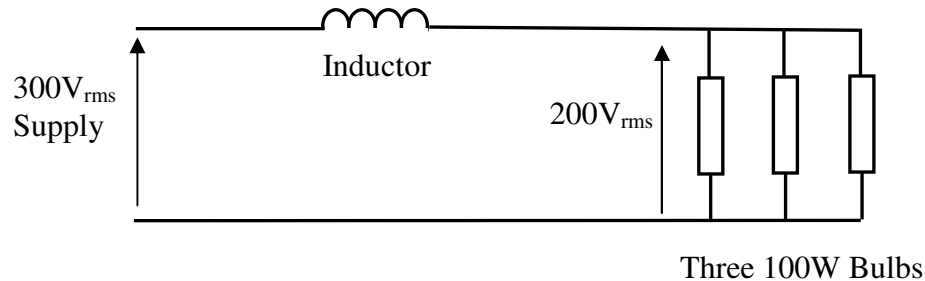

Figure 1.1
- a. Three  $200V_{\text{rms}}$ , 100W bulbs, which may be assumed to be pure resistances, are connected in parallel and are to be used with a  $300V_{\text{rms}}$ , 50Hz supply. A series inductor is included in the circuit to reduce the voltage across the bulbs from  $300V_{\text{rms}}$  to the  $200V_{\text{rms}}$  required as shown in Figure 1.1.